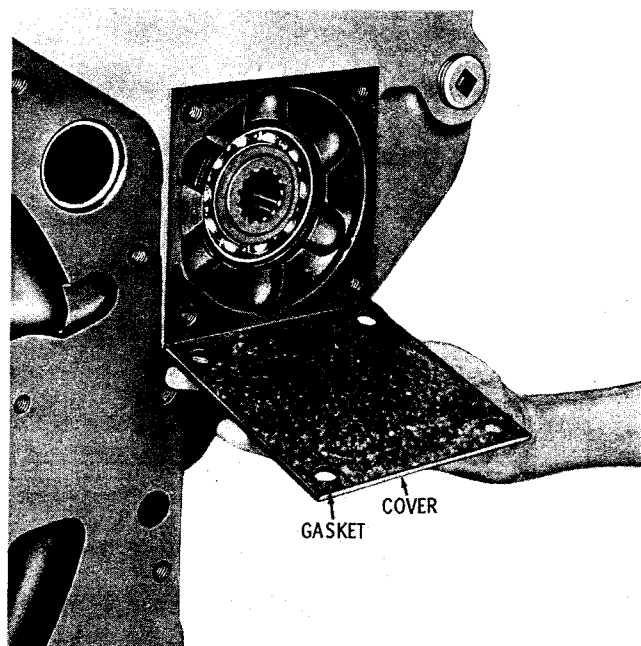

Fig. 5-21. Removing accessory pad cover
(18) Remove the four bolts and lock washers which retain the accessory pad cover. Remove the cover and gasket (fig. 5-21).